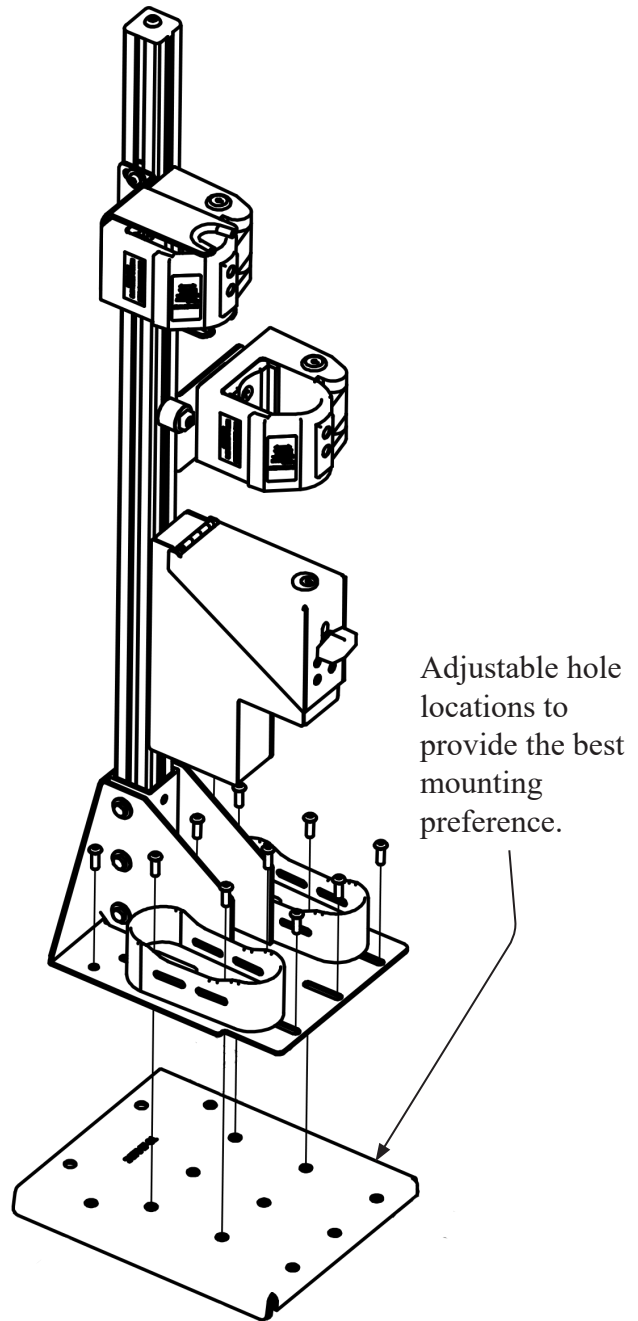

Fig. 5
- A. For self-supporting installations, remove the four bolts that secure the butt plates to the base of the gun rack. Then rest the gun rack to the self supporting stand, loosely attach the gun rack and adjust it and the butt plates as necessary from front to back. (See Fig. 5)